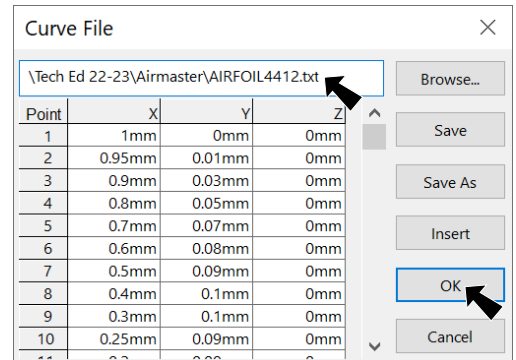

Fig. 15
Step 6. Back in the Curve Point dialog box: click **OK**, Fig. 15.